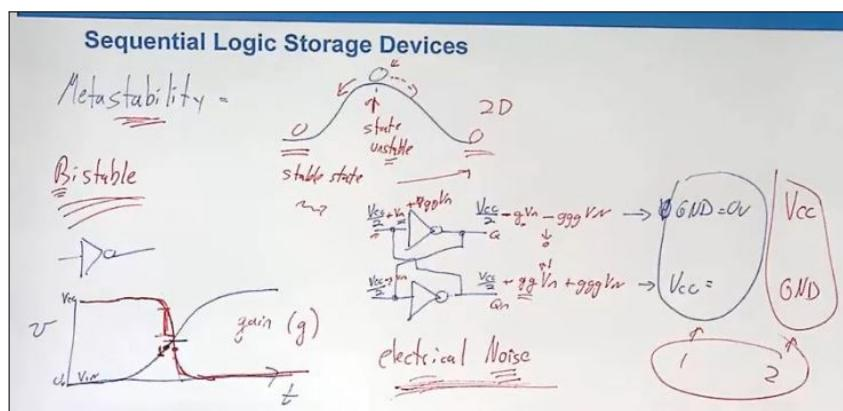

Figure 10.2: Metastability concepts
- An example is the ball shown in Figure 10.2